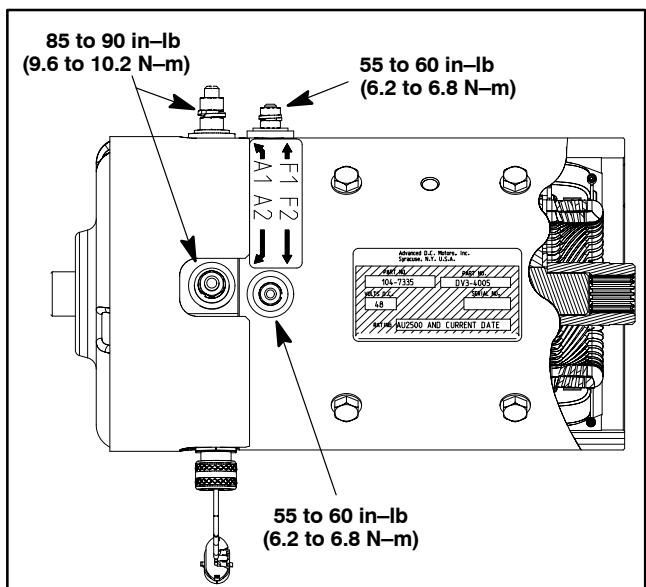

Figure 17
A. Tighten four (4) flange head screws and flange nuts that secure transaxle to the rear frame.
B. Tighten two (2) flange nuts and carriage screws that secure transaxle mount plate (item 5) to support bracket (item 4).
4. Position wheel assemblies to the vehicle with valve stems facing out. Secure each wheel with five (5) lug nuts. Torque lug nuts in a criss-cross pattern from 45 to 65 ft-lb (61 to 88 N-m).
6. Connect wires to traction motor (Fig. 17):